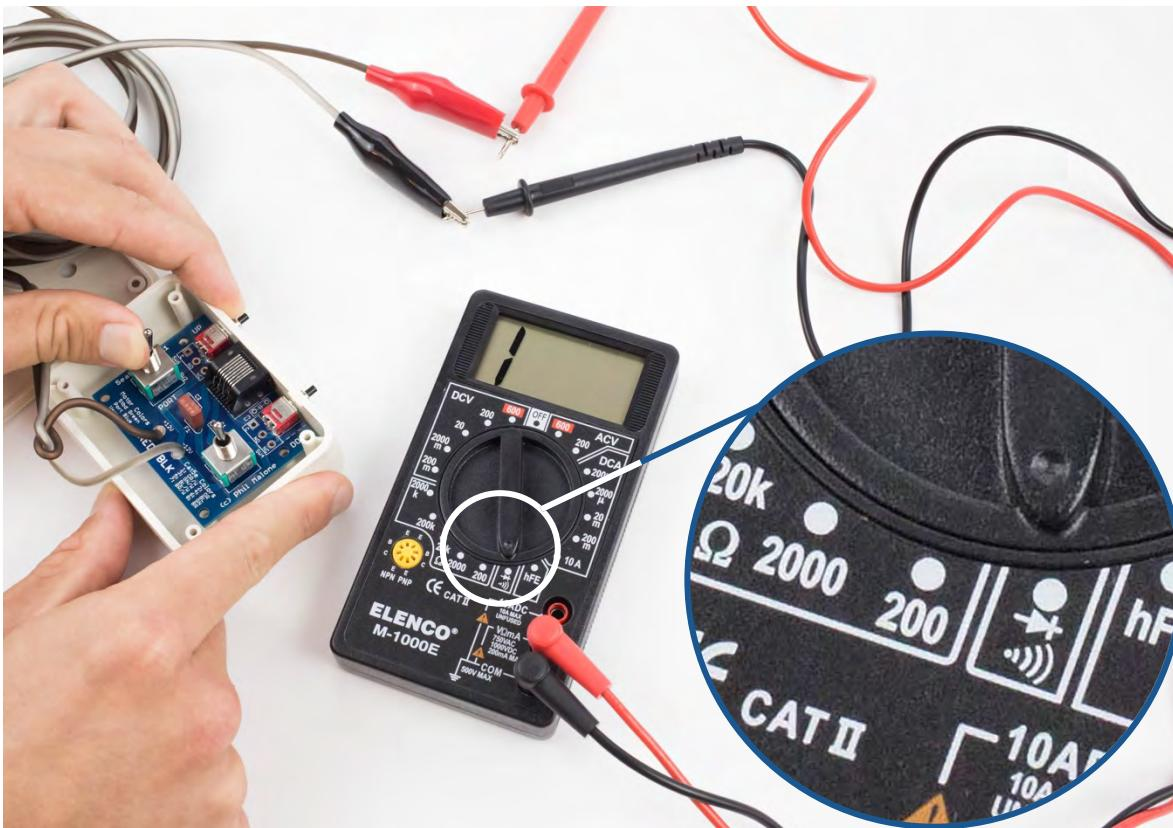

Figure 35
- Set the dial on the digital multimeter to measure continuity as shown in the insert of Figure 35. If your multimeter does not have a continuity setting, set it to measure Ohms (Ω) using one of the lower Ohms settings such as 200 or 2000.
The multimeter should still be set to measure continuity and the alligator clips should still be connected to the probe ends of the multimeter. (Refer back to Figure 35, if necessary.)